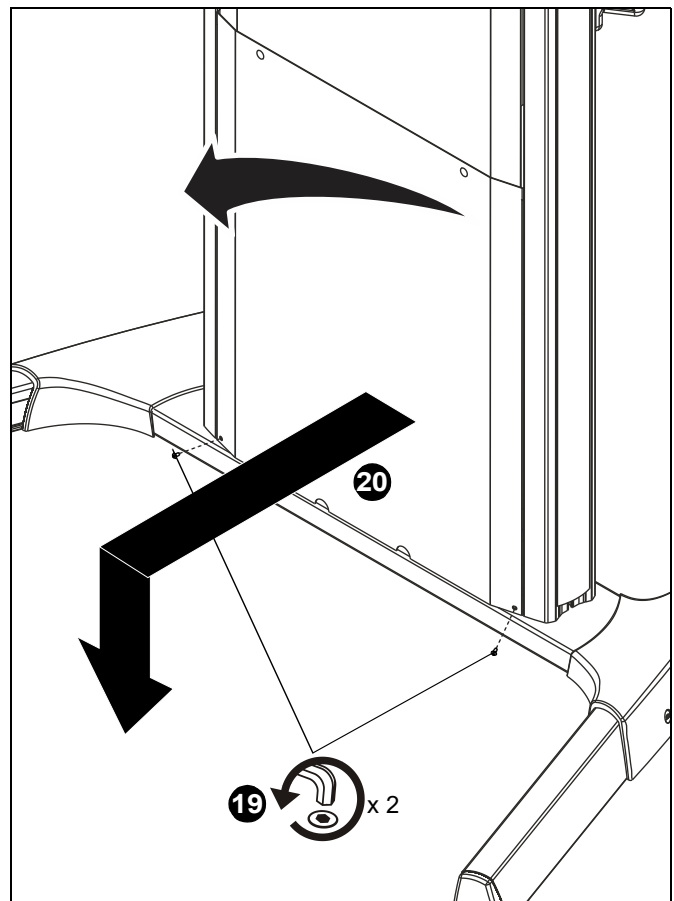

Figure 9
19. Remove bottom two screws from front cover. (See Figure 9)
20. Use finger tabs to pull front cover out and slide down. Cover must be flexed to remove pins from uprights in order to remove. (See Figure 9)